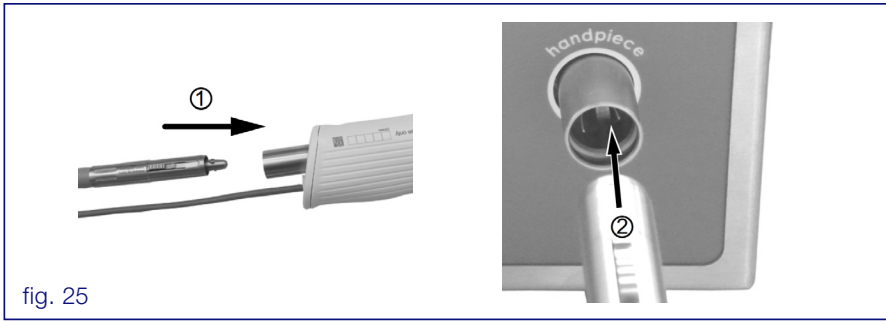

fig. 24
- This can be altered during the procedure by turning the adjusting ring. Press down on the two buttons to unlock, rotate, and click back into place (fig. 24).